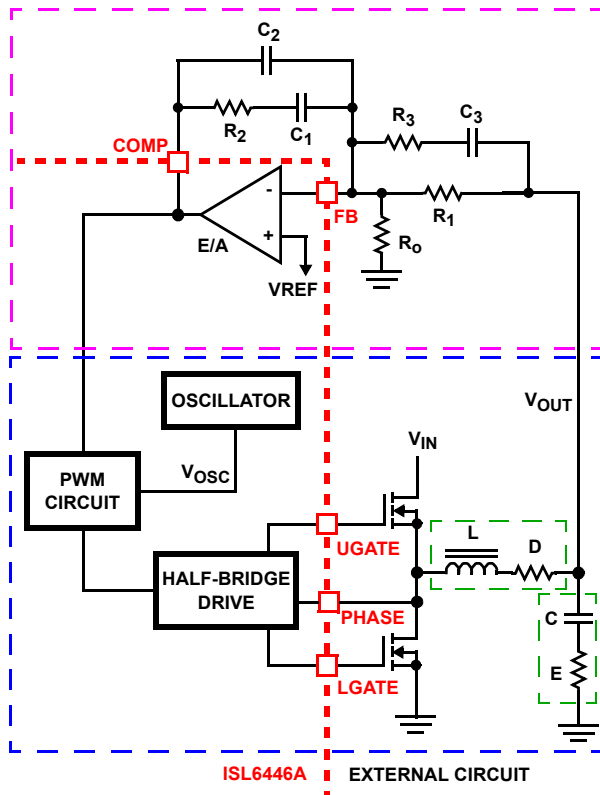

FIGURE 26. VOLTAGE-MODE BUCK CONVERTER COMPENSATION DESIGN
Figure 26 highlights the voltage-mode control loop for a synchronous-rectified buck converter, applicable to the ISL6446A circuit. The output voltage (V_{OUT}) is regulated to the reference voltage, V_{REF} . The error amplifier output (COMP pin voltage) is compared with the oscillator (OSC) modified sawtooth wave to provide a pulse-width modulated wave with an amplitude of V_{IN} at the PHASE node. The PWM wave is smoothed by the output filter (L and C). The output filter capacitor bank's equivalent series resistance is represented by the series resistor E.
The compensation network consists of the error amplifier (internal to the ISL6446A) and the external R_1 to R_3 , C_1 to C_3 components. The goal of the compensation network is to provide a closed loop transfer function with high 0dB crossing frequency (F_0 ; typically 0.1 to 0.3 of f_{SW}) and adequate phase margin (better than 45°). Phase margin is the difference between the closed loop phase at F_{0dB} and 180° . The equations that follow relate the compensation network's poles, zeros and gain to the components (R_1 , R_2 , R_3 , C_1 , C_2 and C_3) in Figure 26. Use the following guidelines for locating the poles and zeros of the compensation network:
1. Select a value for R_1 (1kΩ to 5kΩ, typically). Calculate the value for R_2 for desired converter bandwidth (F_0). If setting the output voltage via an offset resistor connected to the FB pin, R_0 in Figure 26, the design procedure can be followed as presented in Equation 13.